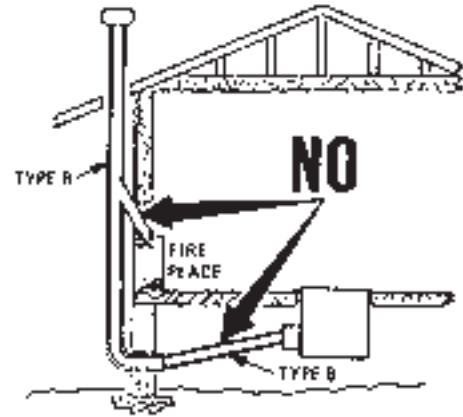

Figure 3
9. The flue pipe **MUST NOT** be connected to a chimney that has a fireplace connected to it. **See Figure 3.**